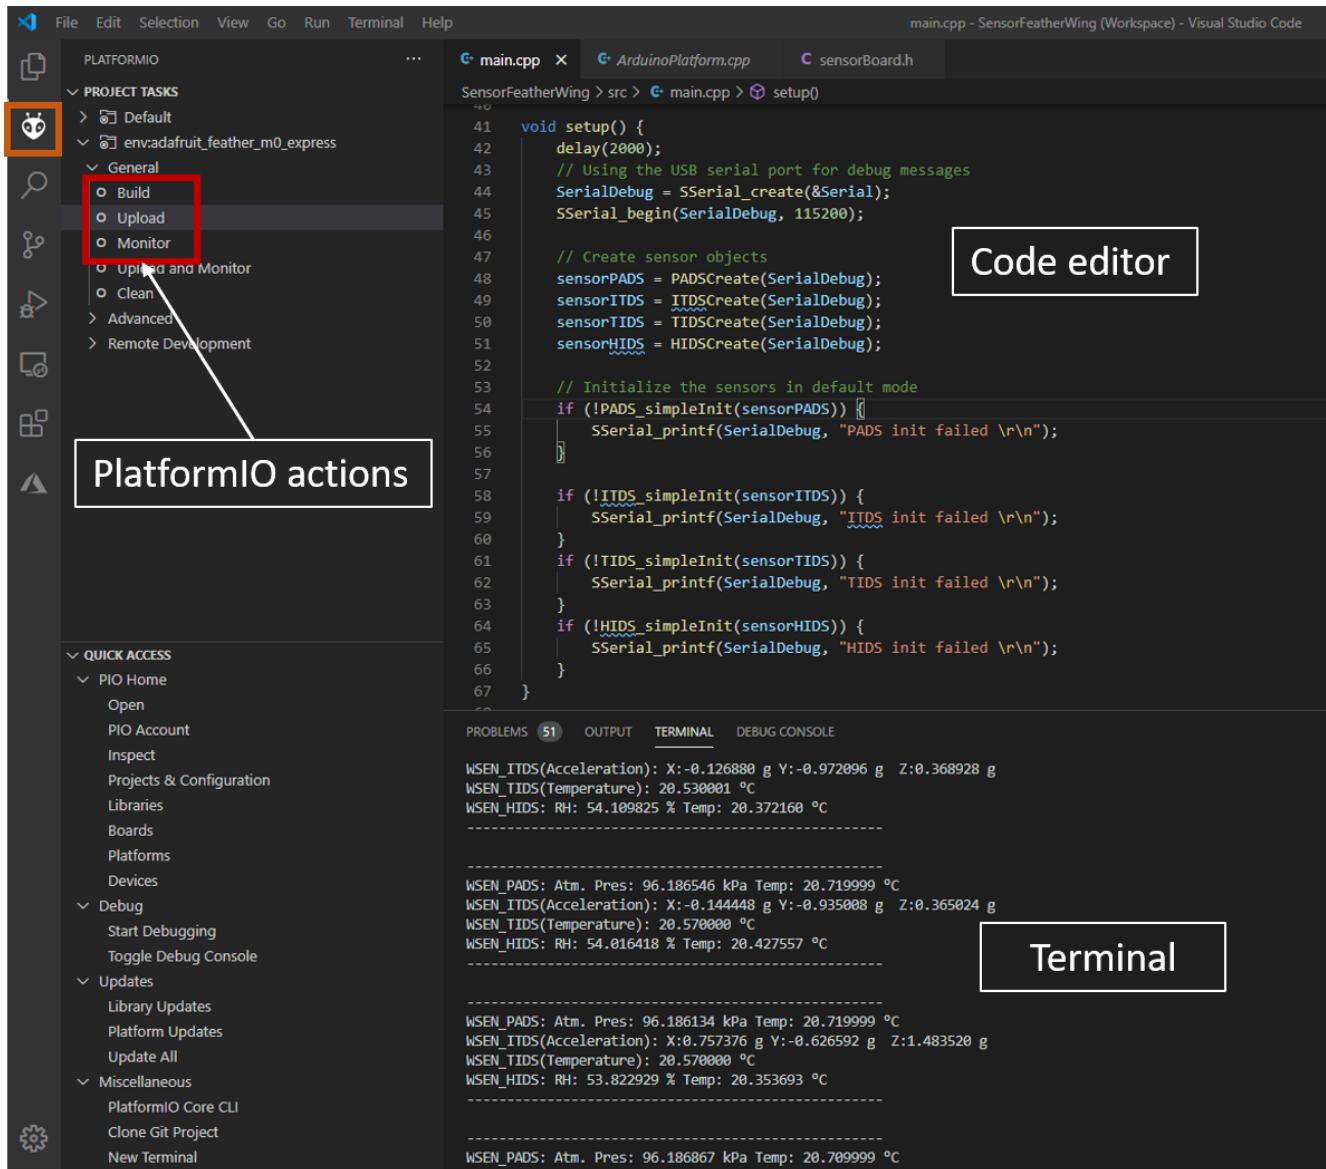

Figure 10: Running the quick start example
- Build and upload the code from the PlatformIO tab as shown in the Figure 10
- After successful upload, click on Monitor to view the debug logs in the serial terminal (see Figure 10).